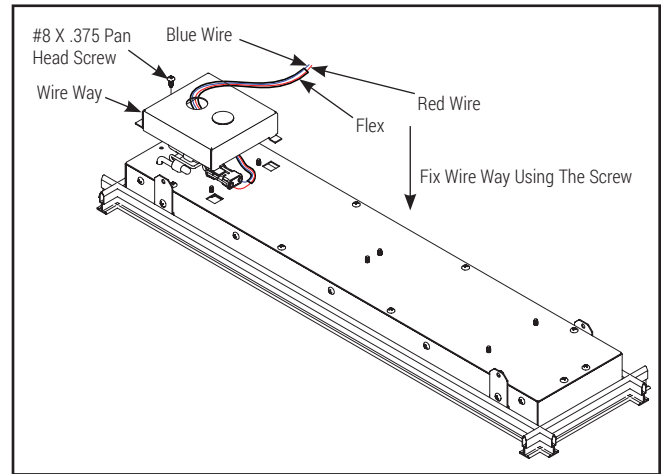

Figure 7.
10. Using the open knockout in Wire Way bring the supply line and Fix Wire way to Back plate with screws (Figure 7.)